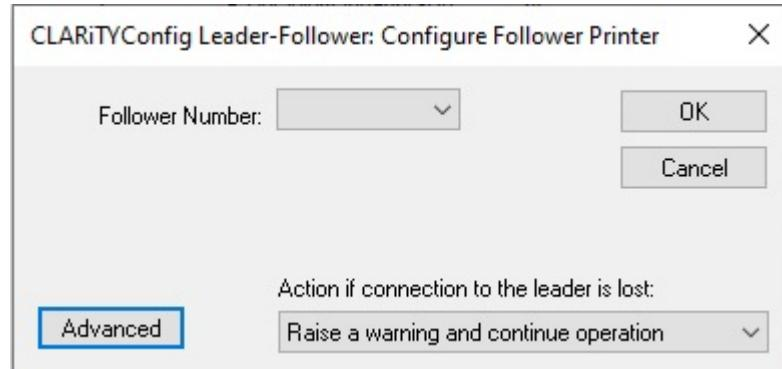

Figure 8-3: Configure Follower LPA
A configure Follower printer dialog box appears (Figure 8-3).
- 3 Select the Follower number (One, Two or Three) from the drop-down list (Figure 8-3).